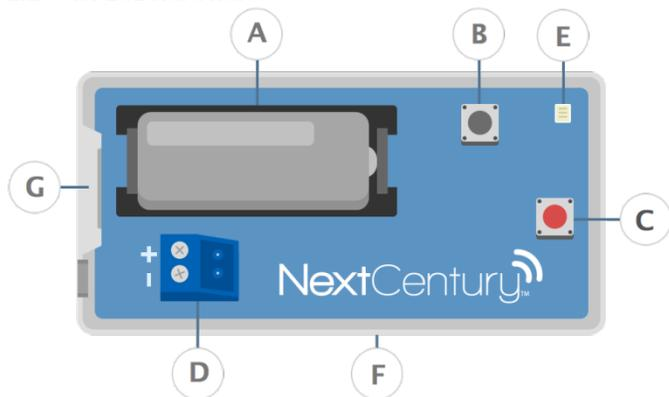

Figure 1 TR-201 Hardware
1. Open the Transceiver plastics by pressing in on the plastic release tab (Figure 1-G) while lifting away the cover.
2. Remove the Degson Connector (Figure 1-D) from the Transceiver board by pulling up on it.
1. NextCentury's M201C and M201CH meters have a mounting plate that can be attached to them. Simply slide the Transceiver onto the mounting plate. When using this method, the Transceiver mounting plate (Figure 1-F) can be discarded.
2. Remove the 3M double-sided protective cover and place the Transceiver mounting plate (Figure 1-F) on a clean wall.
3. Use the mounting screws and anchors to secure the Transceiver mounting plate (Figure 1-F) to the wall.
- This button is pressed to see if the Transceiver transmission is being received by its GW-301 Gateway. If the signal is being received, the RF LED (Figure 1-E) will blink green twice.
Each Transceiver comes from NextCentury in *Travel Mode*. In this mode, all radios on the device are turned off. To exit this mode, simply press the test connect button (Figure 1-C).
The Signal Status LED (Figure 1-E) provides a way to easily check the status of each device. The following table (Figure 4) shows what the different LED patterns indicate.
1. Open the Transceiver plastics by pressing in on the plastic release tab (Figure 1-G) while lifting away the top cover.